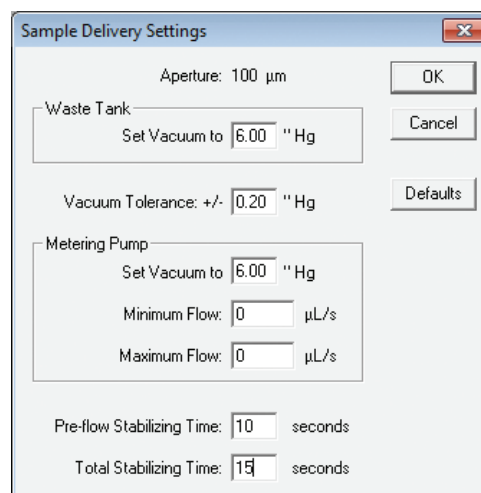

Figure 5
3. Ensure that the SOM is set up for only 1 run at a time, not multiple runs, to reduce blockages. Set the pre-flow stabilizing time to 10 seconds and total stabilizing time to 15 seconds respectively for best accuracy as shown in Figure 5 below.